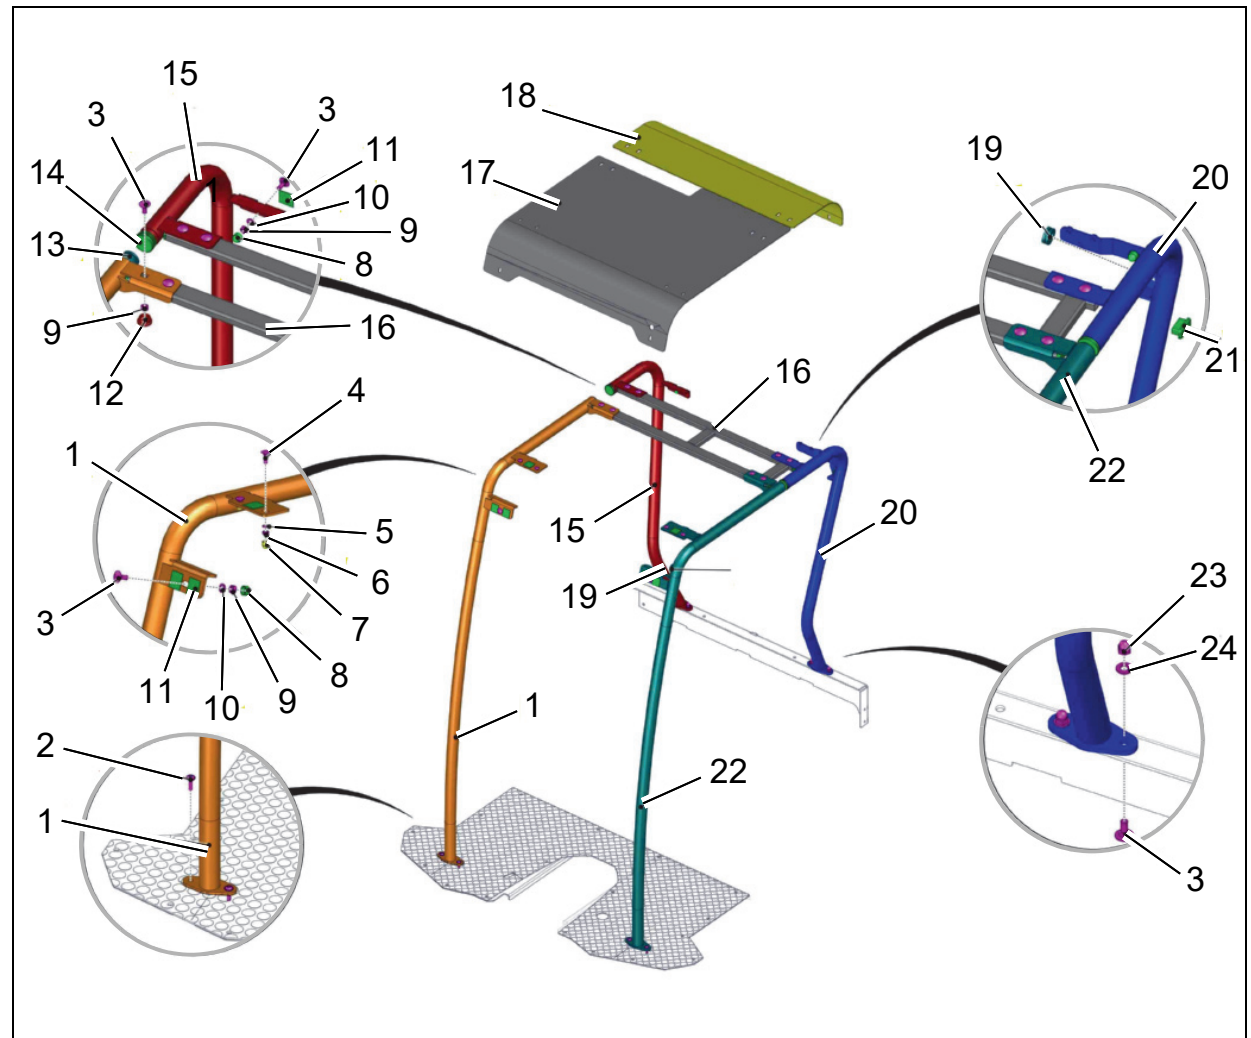
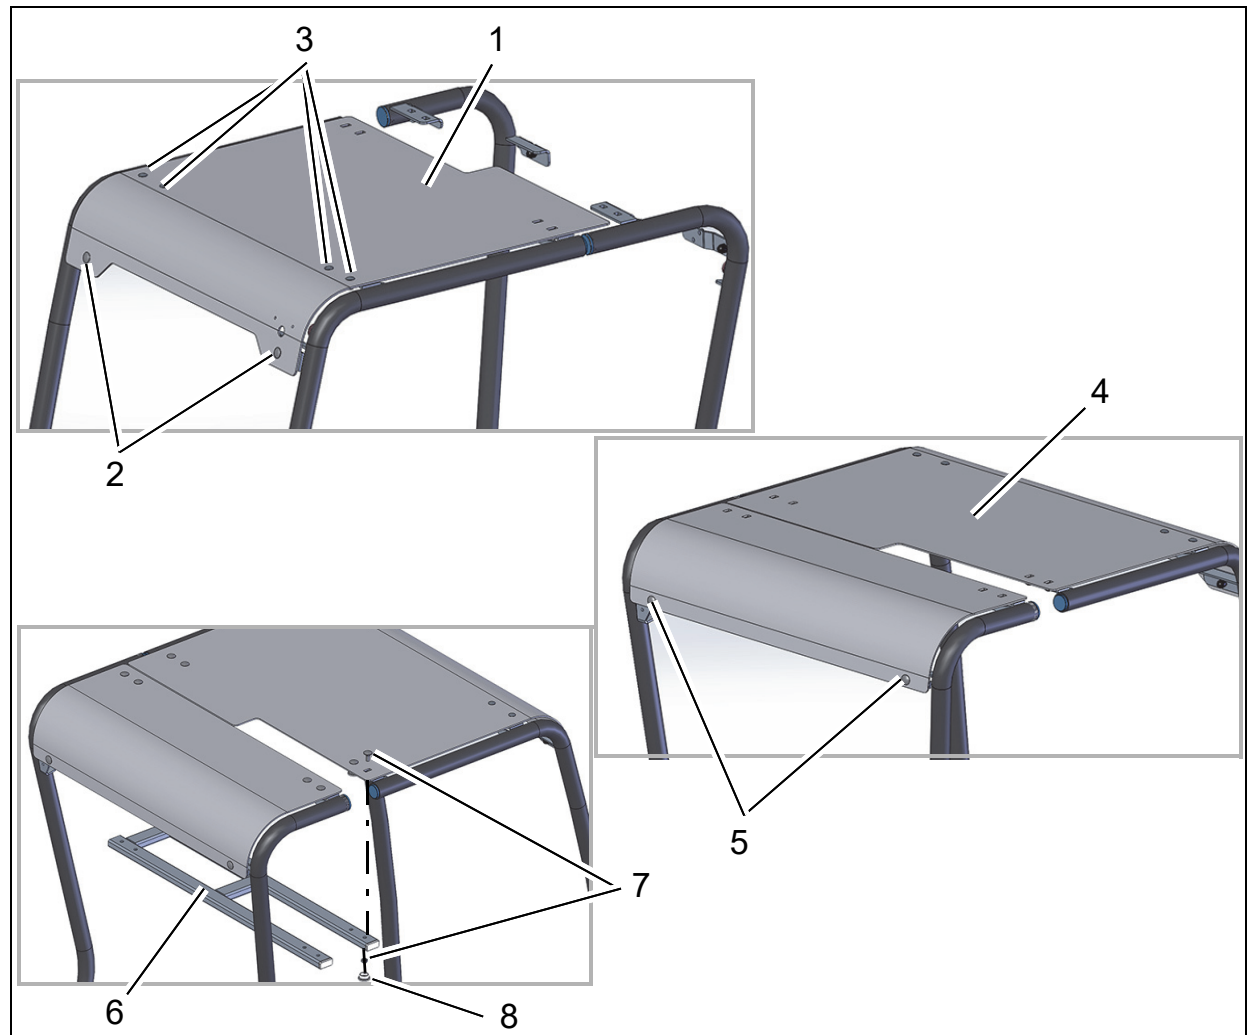

Fig. 1
Fig. 4
2. Insert the four sealing plugs (Fig. 1/21) into the open ends of the frame (Fig. 2/2).
3. Insert the two sealing plugs (Fig. 1/14) into the open ends of the two rear bars (Fig. 2/3).
4. Insert the two sealing plugs (Fig. 1/13) into the open ends of the two front bars (Fig. 2/4).
2. Attach the two rear bars (Fig. 3/2) to the L-shaped profile behind the seat using the round-head bolts, detent-edged washers and cap nuts (see Fig. 1).
1. Position the large roof (Fig. 4/1) on the front bars, align and then initially attach it using only the two M8x20 round-head bolts and the other standard parts (see Fig. 1) (Fig. 4/2).
2. Attach the roof to the front bars using the four M6x20 round-head bolts and the other standard parts (Fig. 4/3). Tightening torque: 3.8 Nm.
3. Position the rear roof (Fig. 4/1) on the rear bars, align and then attach it using the two M8x20 round-head bolts and the other standard parts (see Fig. 1) (Fig. 4/5)
1. Position the frame (Fig. 4/6) from below against the roof and use, for example, screw clamps to fix it in place (protect the paintwork against scratches).
2. Attach the frame using the eight M8x20 round-head bolts and nuts (Fig. 4/7).
3. Seal the holes in the frame with sealing plugs (Fig. 4/8).